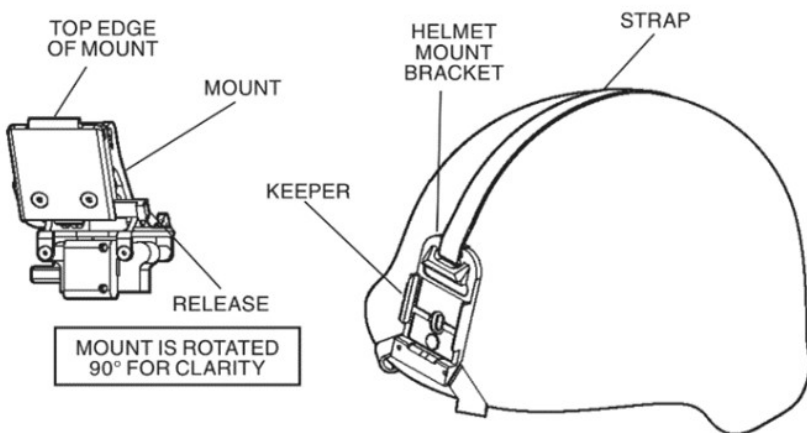
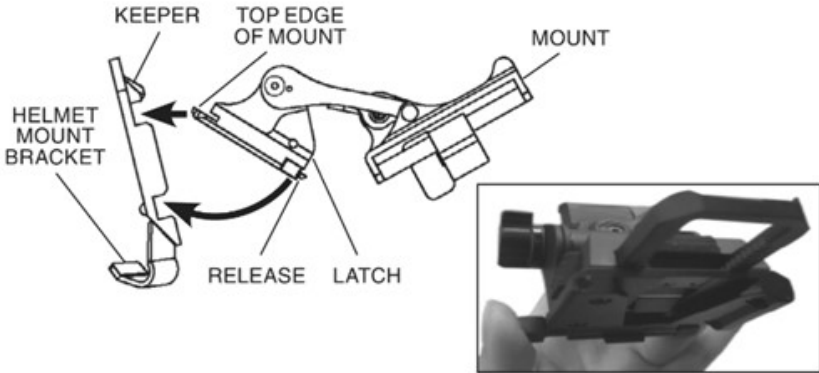

FIGURE 2.11. HELMET MOUNT
FIGURE 2.12. REASSEMBLY OF HELMET MOUNT
(2) Press the release (Figure 2.11.) to remove the mount from the helmet mount bracket.
(3) Make sure the strap is laced onto the helmet mount bracket as shown in Figure 2.11.
(4) With catch (see Figure 2.11.) in the forward most position, place the strap over the top of the helmet center (see Figure 2.12).
(5) Hook the rear bracket (see Figure 2.11.) on the center of the back of the helmet and lay the strap with helmet mount bracket over the top of the helmet.
(6) Hook the helmet mount bracket in the center of the front lip of the helmet and hold it in place (see Figure 2.12.).
(7) With the buckle lever open, take up the slack in the strap using the catch. Close the buckle lever.
(8) Disengage the nape strap latch on the left side of the nape strap.
(9) Don the helmet. Do not fasten the helmet chinstrap.
(10) Engage the nape strap at the nape strap latch. Tension the nape strap for a stable fit, then install and tension the helmet chin strap. The brow of the helmet should be parallel to the ground and the helmet stable on the head.
(11) Insert the top edge of the mount under the keeper on the helmet mount bracket and rotate downward until the latch engages (see Figure 2.12.). To release the mount from the helmet bracket, press the release and pull forward and down. When the helmet is not worn insert the top edge of the mount under the keeper on the helmet mount bracket and rotate downward until the latch engages, and press the helmet lock or release button to lock the night vision goggles bracket on the helmet. If necessary, the helmet lock or release mode button can be used to set the bracket to lock or release mode.